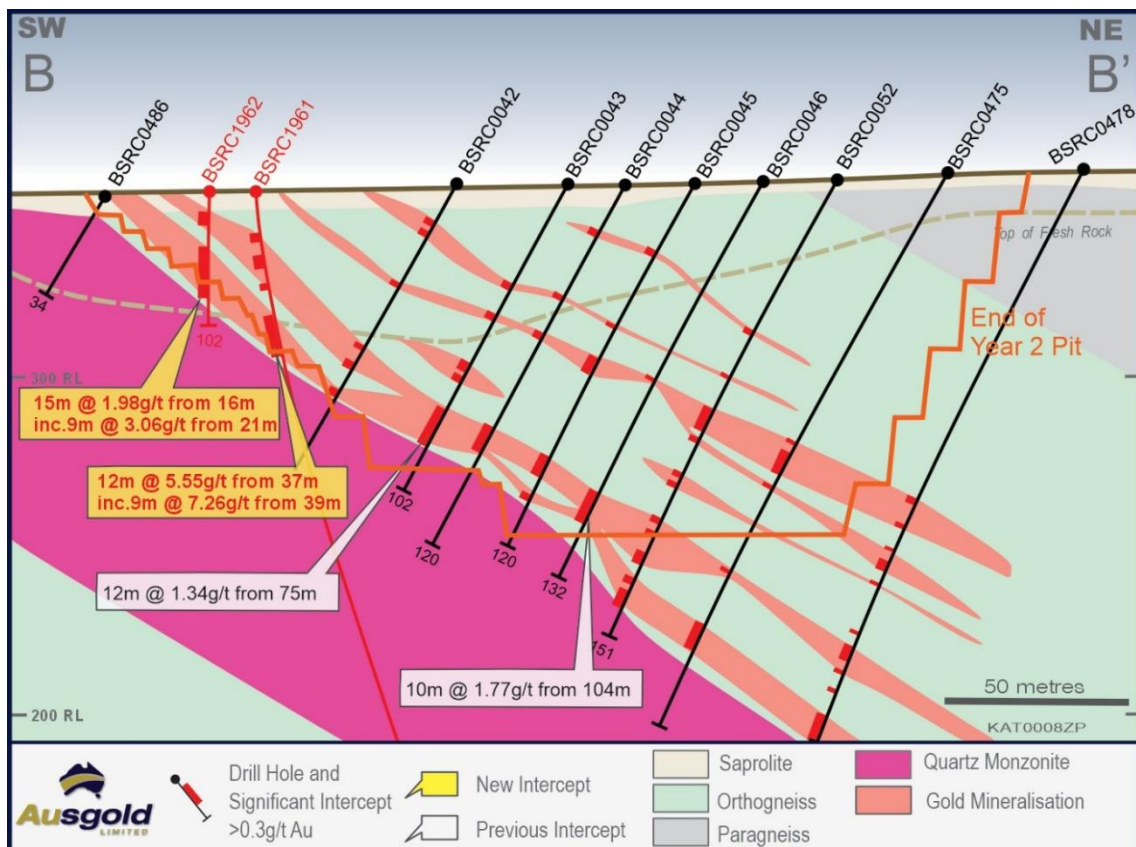

Figure 4 – Cross-section B-B' across the Jinkas Lodes with Resource Drilling and End of Year 2 Pit
- **12m @ 5.55g/t from 37m including 9m @ 7.26g/t from 39m in BSRC1961 (Figure 4)**
- **15m @ 1.98g/t from 16m including 9m @ 3.06g/t from 21m in BSRC1962 (Figure 4)**